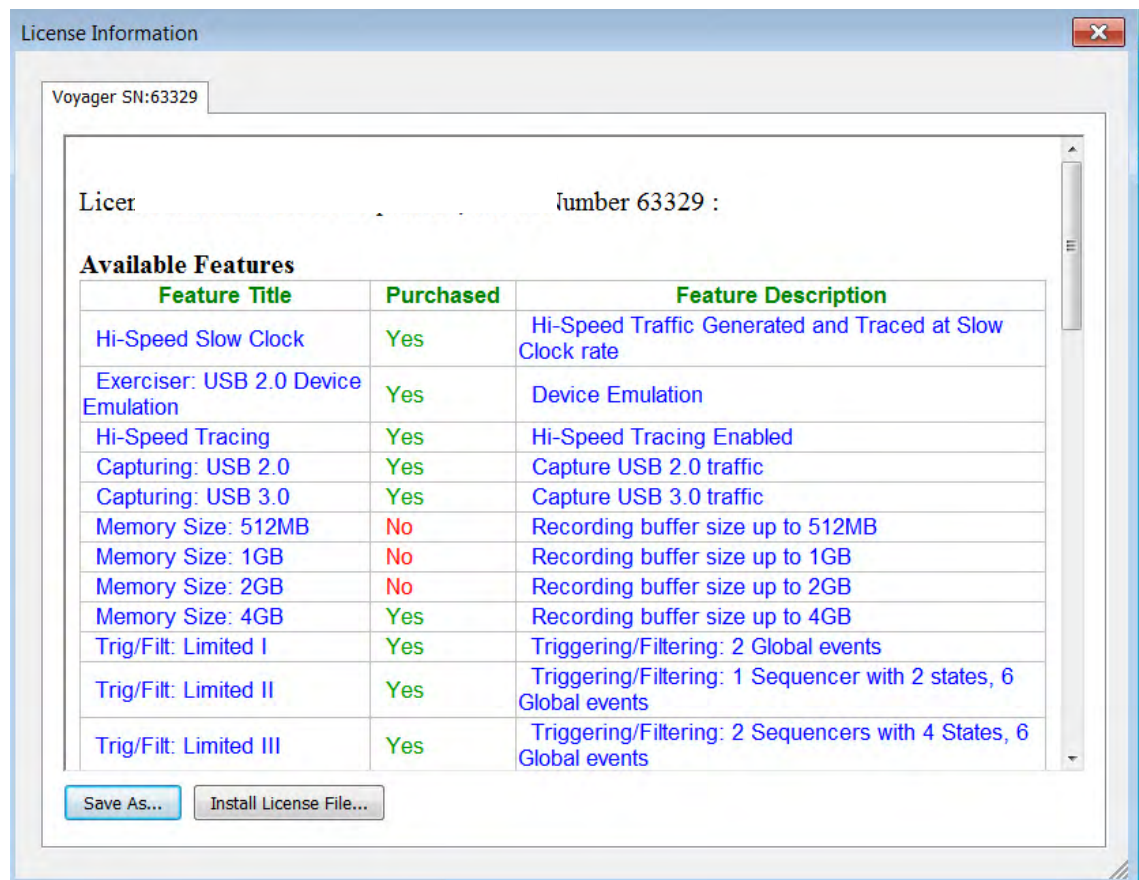

Figure 13.7: License Information Dialog
1. From the Help menu, select **Display License Information** to display the License Information Dialog (see Figure 13.7 on page 484).